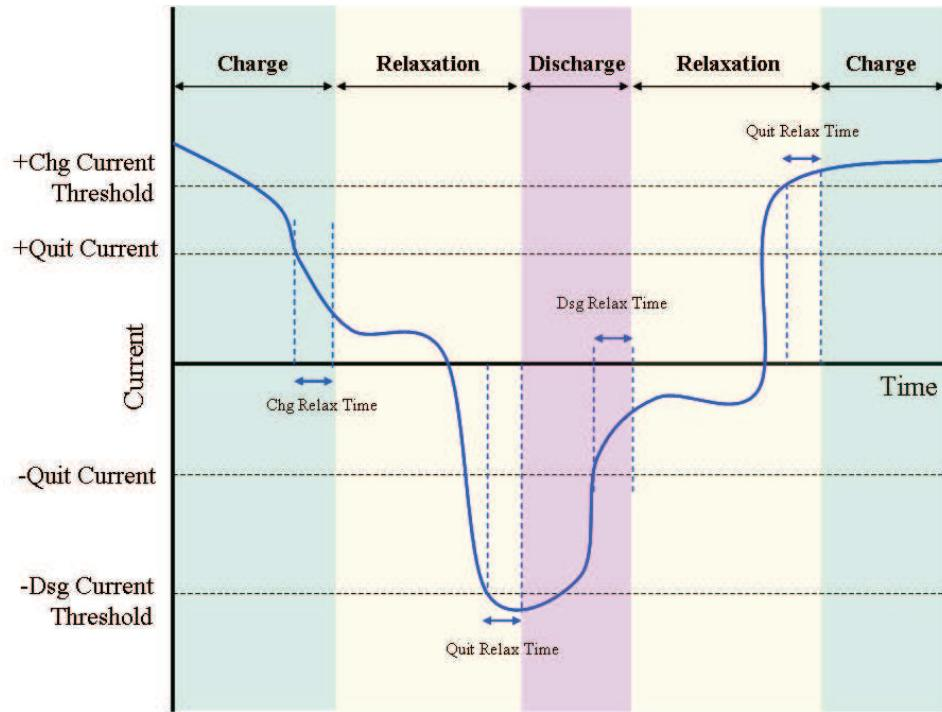

Figure 10. Example of Algorithm Operation Mode Changes With Varying *DataRAM.Average Current()*
The algorithm differentiates between *charge*, *discharge*, and *relaxation* modes of operation. During *charge* mode, the *DataRAM.Flags()* [DSG] bit is cleared, and during *discharge* and *relaxation* mode, it is set. Entry and exit of each mode is controlled by Data Flash (DF) parameters in the subclass Gas Gauging: Current Thresholds section as illustrated in Figure 10. Charge mode is exited, and relaxation mode is entered when *DataRAM.Average Current()* goes below *DF.Quit Current* after *DF.Chg Relax Time* period. Discharge mode is entered when *DataRAM.Average Current()* goes below *DF.Dsg Current Threshold* and after *DF.Quit Relax Time* period. Discharge mode is exited, and relaxation mode is entered when *DataRAM.Average Current()* goes above negative *DF.Quit Current* threshold and after *DF.Dsg Relax Time* period. Charge mode is entered when *DataRAM.Average Current()* goes above *DF.Chg Current Threshold* and after *DF.Quit Relax Time* period.